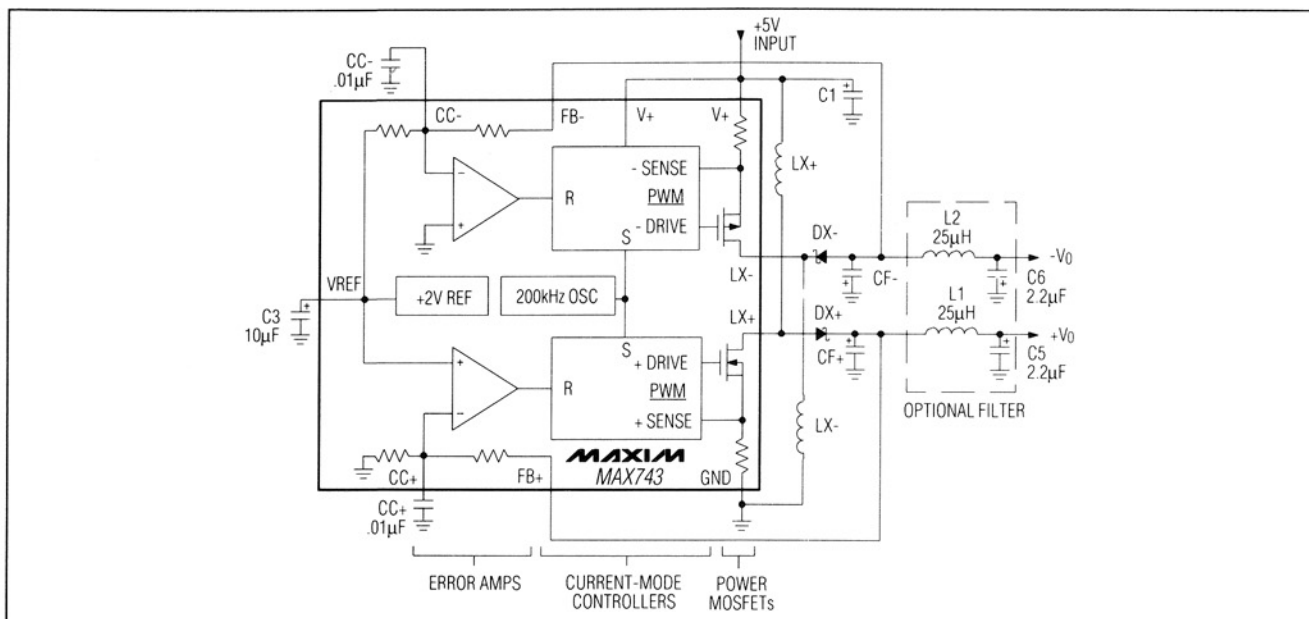
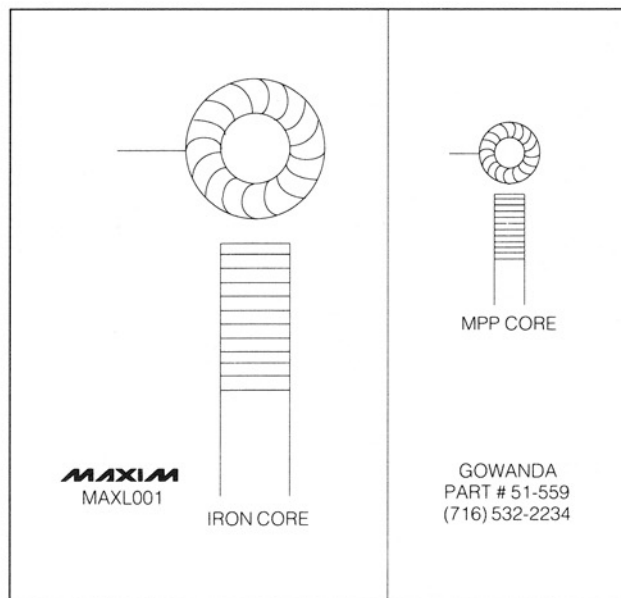
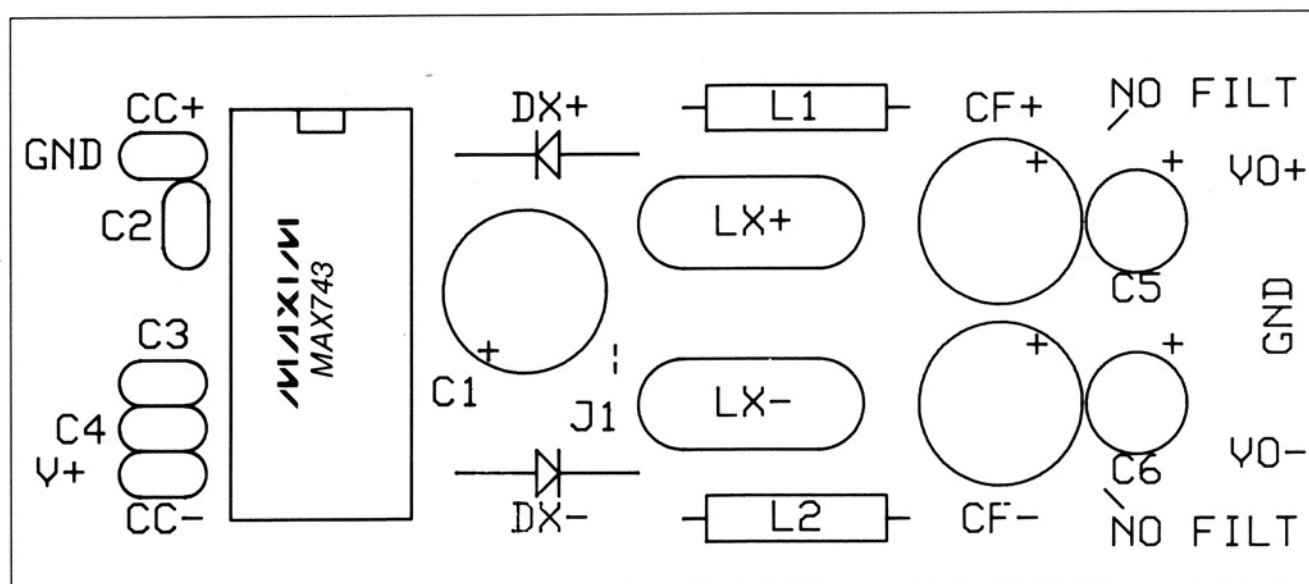

Figure 4. Functional Diagram with Optional Pi Filter
Figure 5. 100 μ H Low-EMI Inductors for 3W Supplies (Actual Sizes) (See Table 1)
Figure 7. Component Placement Diagram for PC Layout of Figure 6
The MAX743EVKIT Evaluation Kit demonstrates the output capabilities and noise performance of the MAX743 standard application circuit (Figure 1). The kit includes main switching components identical to those found in the high-volume production kit described on page 11 (MAX743CPEKIT). With a few quick modifications, the circuit can also serve as a low-noise test bed to evaluate other components, such as the miniature MPP toroid inductor of Figure 5. The kit includes optional Pi filters shown in the Functional Diagram (Figure 4), which reduce output noise to less than 2mVp-p.
1. Build Circuit. Assemble the PC board according to the component placement diagram of Figure 7 and the schematic of Figure 4. 3 resistors will be left over (and used for testing). The extra holes near LX and CF are options for nonstandard component sizes. Do not install jumper, J1, or C4.